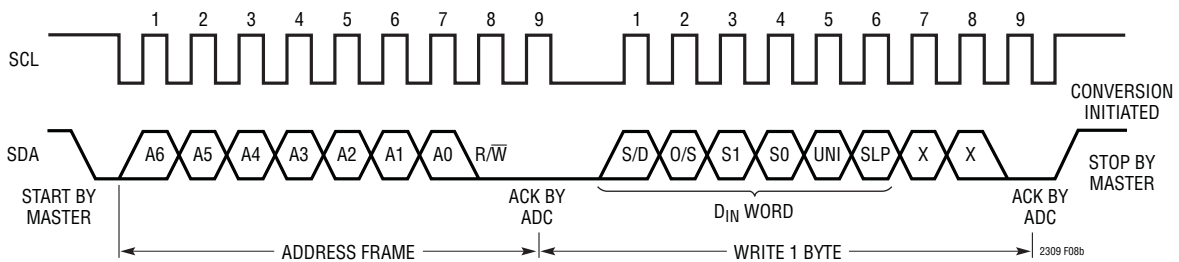

Figure 8b. Timing Diagram for Writing to the LTC2309
The various modes of operation of the LTC2309 are programmed by a 6-bit D_{IN} word. The SDI input data bits are loaded on the rising edge of SCL during a write operation, with the S/D bit loaded on the first rising edge and the SLP bit on the sixth rising edge (see Figure 8b in the I²C Interface section). The input data word is defined as follows:
When the LTC2309 is addressed for a write operation, it acknowledges by pulling SDA low during the low period before the 9th cycle and acts as a receiver. The master/transmitter can then send 1 byte to program the device. The input byte consists of the 6-bit D_{IN} word followed by two bits that are ignored by the ADC and are considered don't cares (X) (see Figure 8b). The input bits are latched on the rising edge of SCL during the write operation.